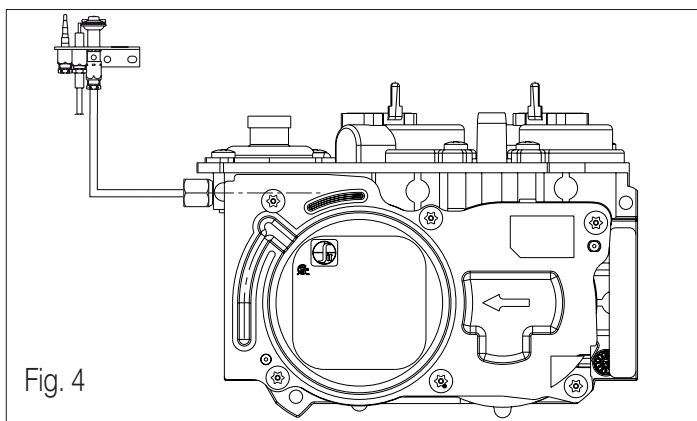

Fig. 4
7. Connect pilot tubing to valve with appropriately sized fittings as shown in Fig. 4.